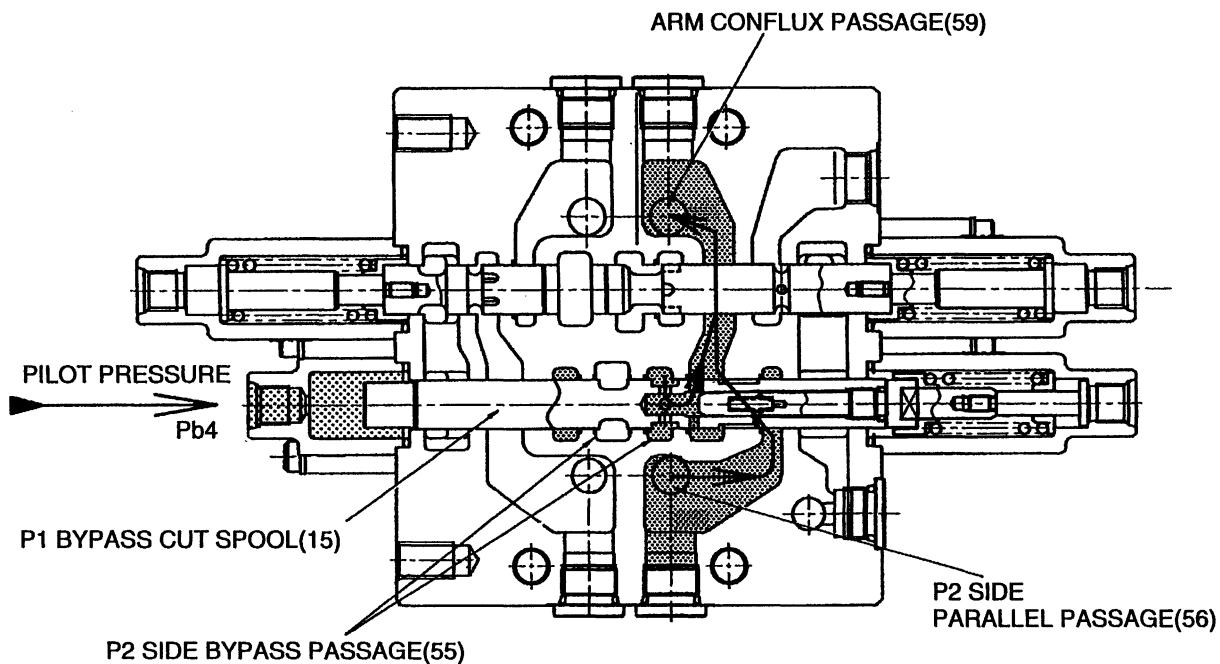

Fig. 2-19 Functions of P1 bypass cut spool
In the meantime, the mechatro control system causes the secondary pilot pressure (electromagnetic proportional) to enter the spring chamber of the P1 bypass cut spool (15) and shifts the spool (15). (Fig. 2-19)
The oil which has flowed into the check valve and the P1 parallel path (53) flows into the arm conflux path (59) which is now open by the shift of the P1 bypass cut spool (15). (Fig. 2-19)